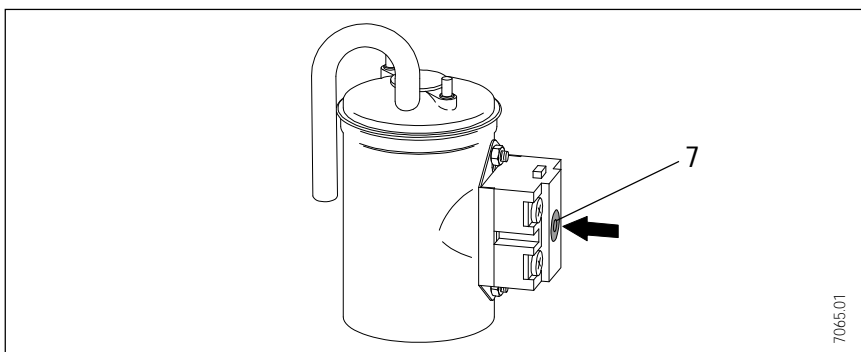

Fig. 21
– Activate the safety thermal cut-out, Fig. 21